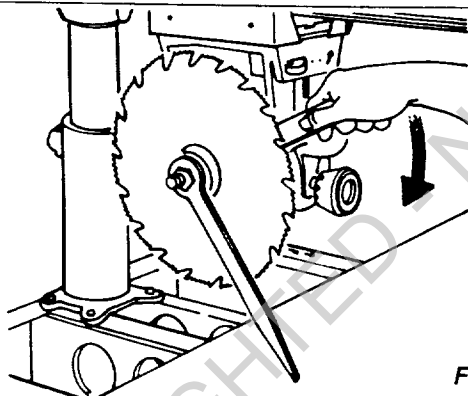

Figure 17
- (1) Place on the motor shaft, in this order: 1) One of the two blade collars, flat face out; 2) The blade, with the teeth pointing in a clockwise direction when you are facing saw-blade end of motor; 3) The remaining blade collar, flat face against blade; and 4) The shaft nut.
- (2) Tighten the shaft nut as shown in Figure 17.